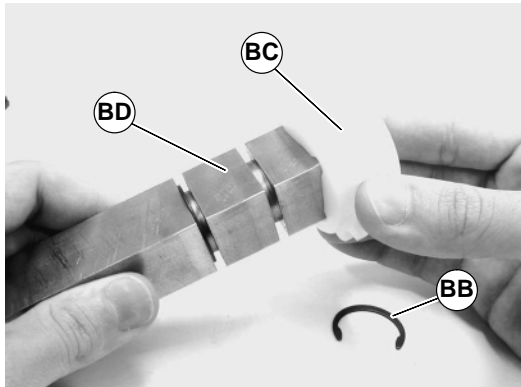

Figure 40
- Remove snap rings (BB of Figure 40). Slide drive sprocket (BC) off the end of pulley (BD).